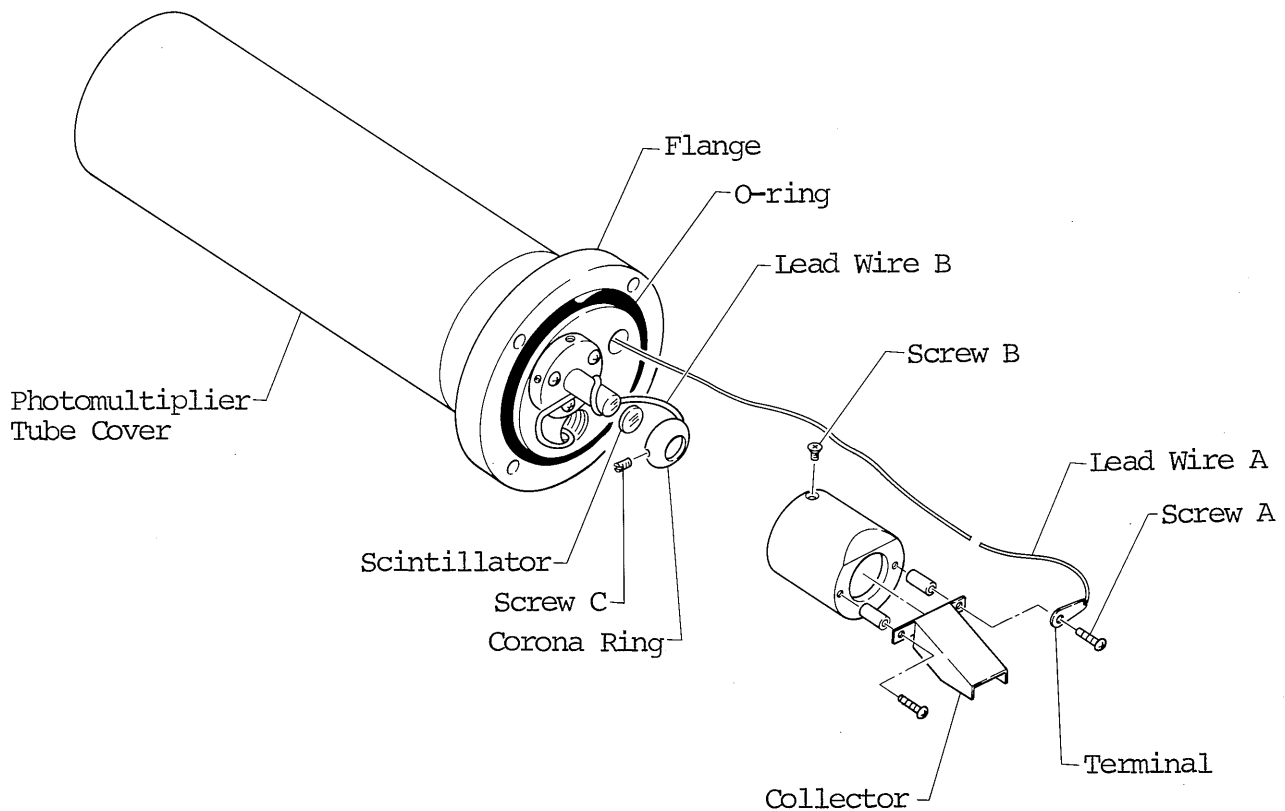

Fig. 6.7-2 Taking Out Scintillator
3. Loosen screw A and remove lead wire A. Then, remove collector by pulling it after loosening screw B (refer to Fig. 6.7-2 also for the following steps).